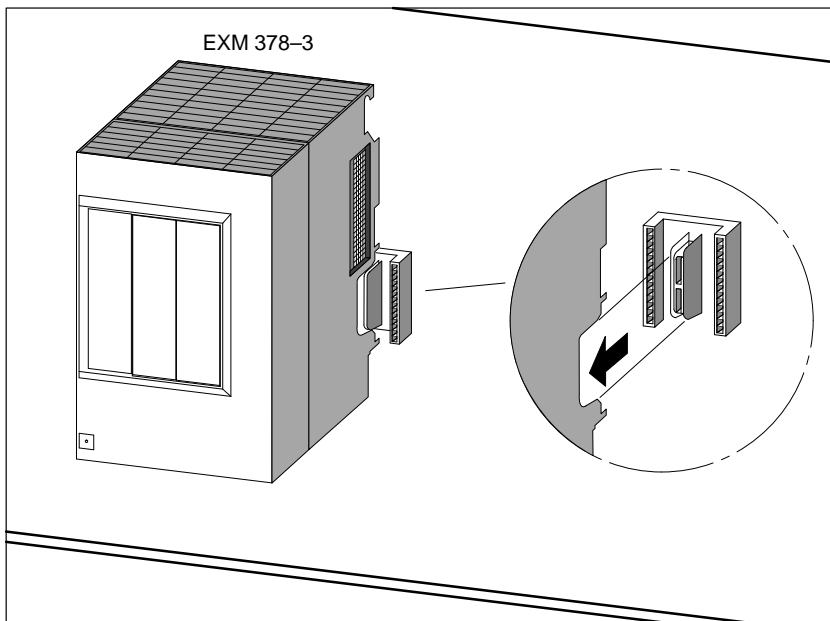

Figure 5-4 Position of a Bus Connector on the Module
9. Remove the bus connectors between the module to be replaced and the adjoining modules. Figure 5-4 shows the position of a bus connector on the module.